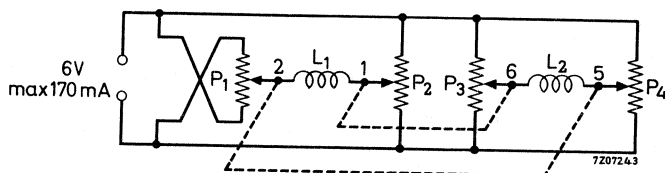

Fig. 1
- With the tube fully scanned in the vertical direction, the image has to be shifted so that the graticule is fully covered. With the circuit according to Fig. 1 this is done by means of the ganged potentiometers  $P_1$  and  $P_4$ .